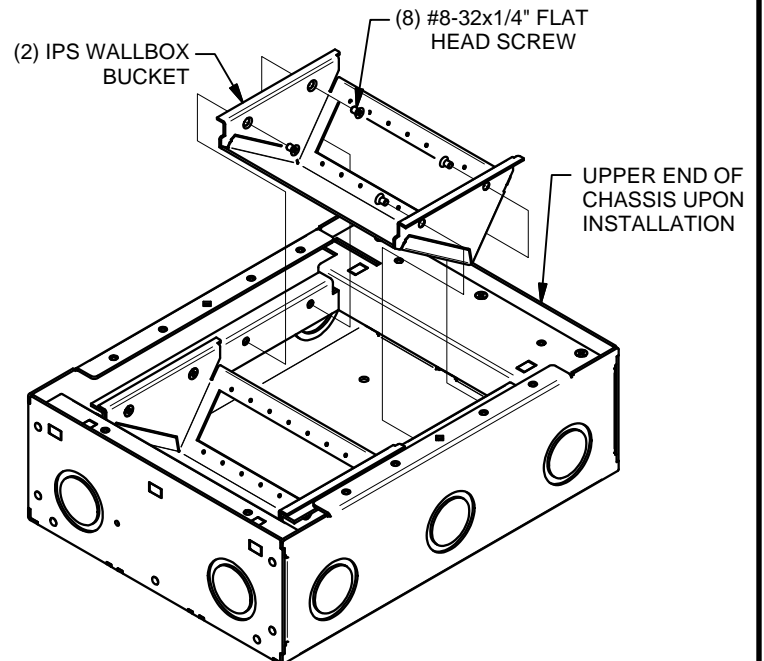

FIGURE 5
5. INSTALL IPS WALLBOX BUCKETS AS SHOWN IN FIGURE 5.